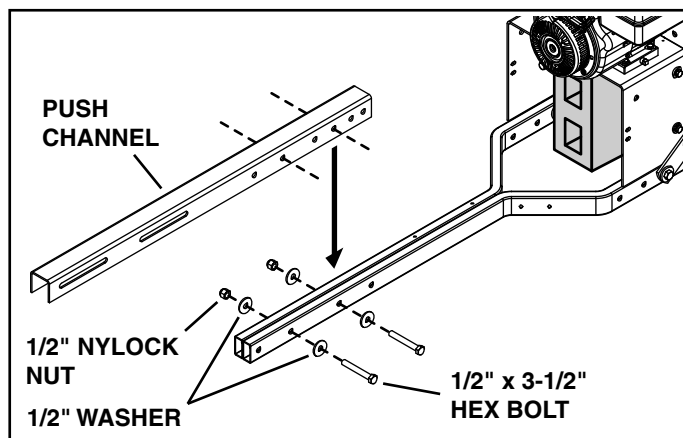
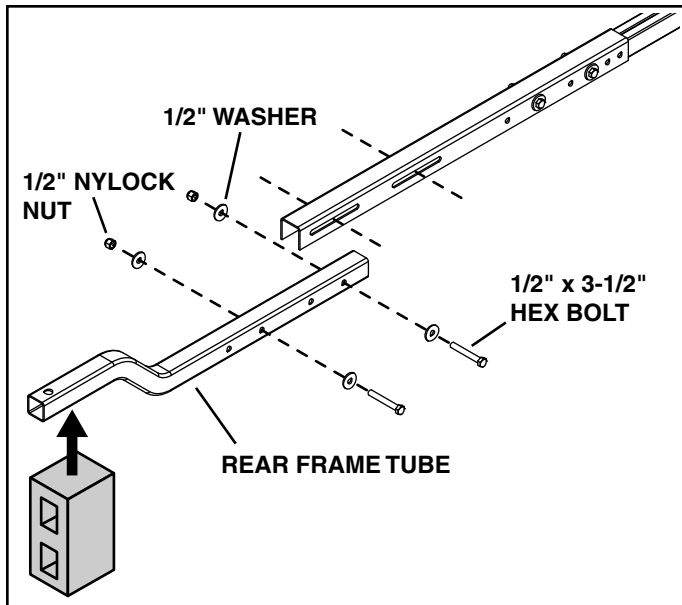

FIGURE 14
FIGURE 15
43. If the rear frame tube does not slide in or out enough to align with the ATV hitch, move the bolts that fasten the rear frame tube to the push channel to a different set of holes. (Refer to figure 15). If alignment is still not possible, move the bolts that fasten the push channel to the mounting tubes to a different set of holes. (Refer to figure 14).
44. Attach the rear frame tube to the ATV hitch using a 3/4" x 7-1/2" hex bolt, four (4) short spacers, a long spacer and a 3/4" nylock nut. Place spacers above or below the hitch as needed to maintain at least 1" clearance with the bottom of the ATV and adequate clearance with the ground. **Tighten.**
45. **Tighten** the nuts and bolts that fasten the push channel to the mounting tubes, and the rear frame tube. Refer to figures 14 and 15. Make sure the mounting tubes stay centered with the ATV while tightening.